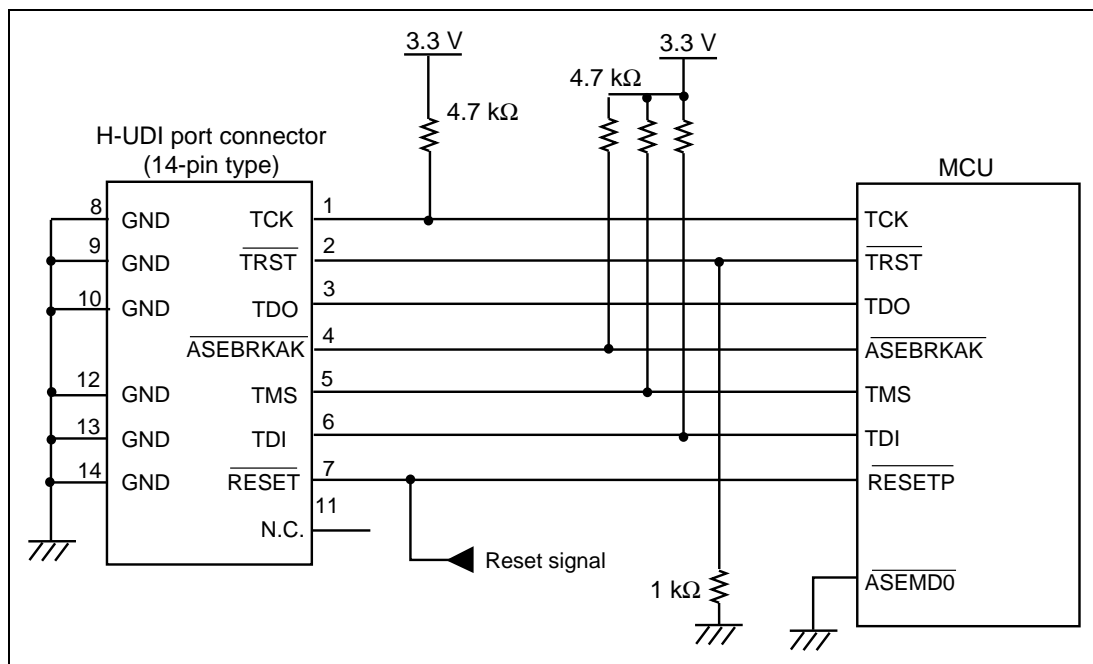

Figure 4.2 Recommended Circuit for Connection between the H-UDI Port Connector and the MCU when Using the Emulator (14-Pin Type)
Figure 4.2 shows a recommended circuit between the H-UDI port connector (14 pins) and the MCU.
- (1) When the emulator is used: /ASEMD = low (ASE mode)
- (2) When the emulator is not used: /ASEMD = high (normal mode)
6. The resistance values shown in figure 4.2 are recommended.